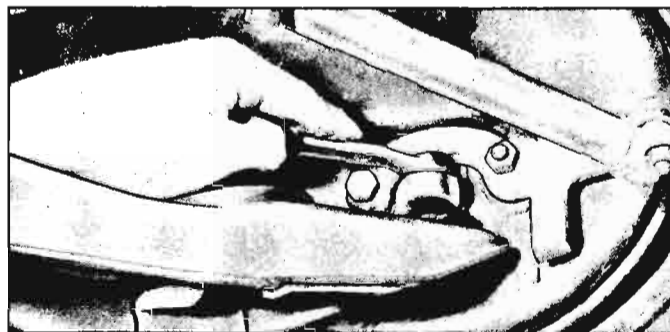

Fig. 3-13—Removing Lower Control Arm
9. Remove cotter pin from the lower spherical joint. Remove nut (fig. 3-13). Tap on control arm to remove it and the joint from the steering knuckle.